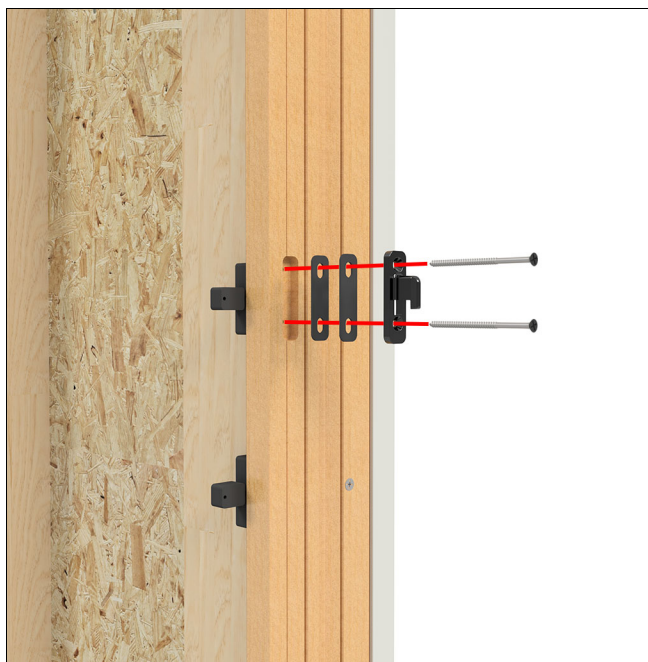

Figure 46
**3. Keeper Adjustment:** With the panel properly aligned, check to make sure it locks correctly. There are two plastic shims behind the keepers and panel guides that will allow some adjustment to move the hardware in and subsequently make the panel close tighter when locked. See Figure 46.